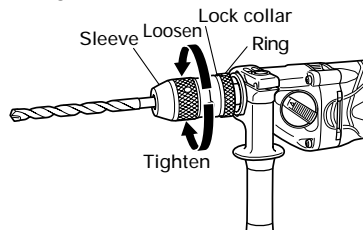

Fig. 3
- Type A (Fig. 3)
- (1) Mounting the bit